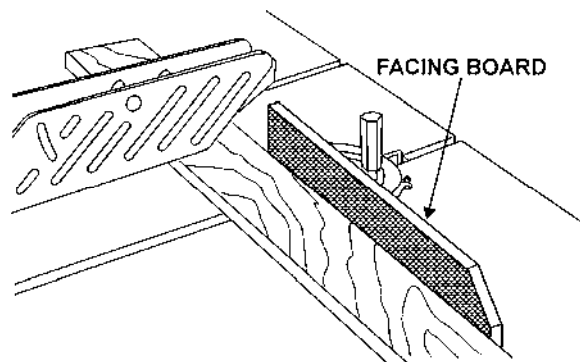

Figure 37
5. For added safety in crosscutting use an auxiliary wood facing attached to the miter gauge using the holes provided. (Figure 37)